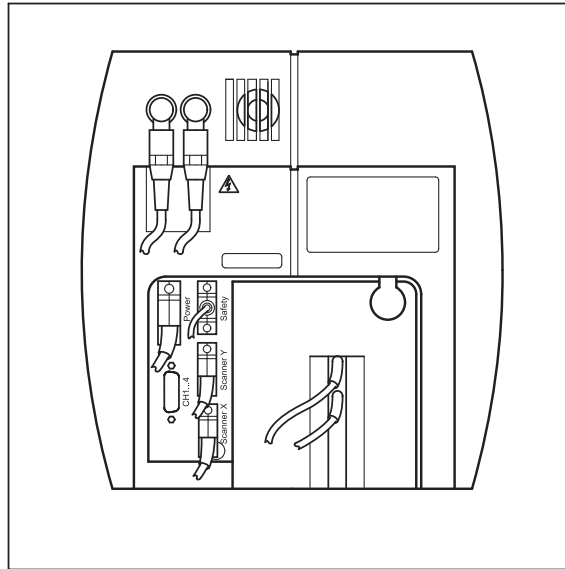
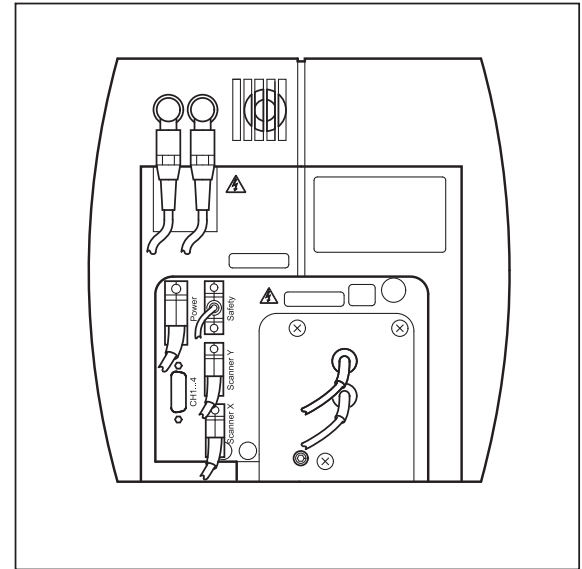

Fig. 1-16 Rear view of META scan head
Fig. 1-17 Rear view of META scan head with blue cover removed
- LSM 510 META scan head: Remove the blue cover from the back of the scan head (Fig. 1-16 and Fig. 1-17).